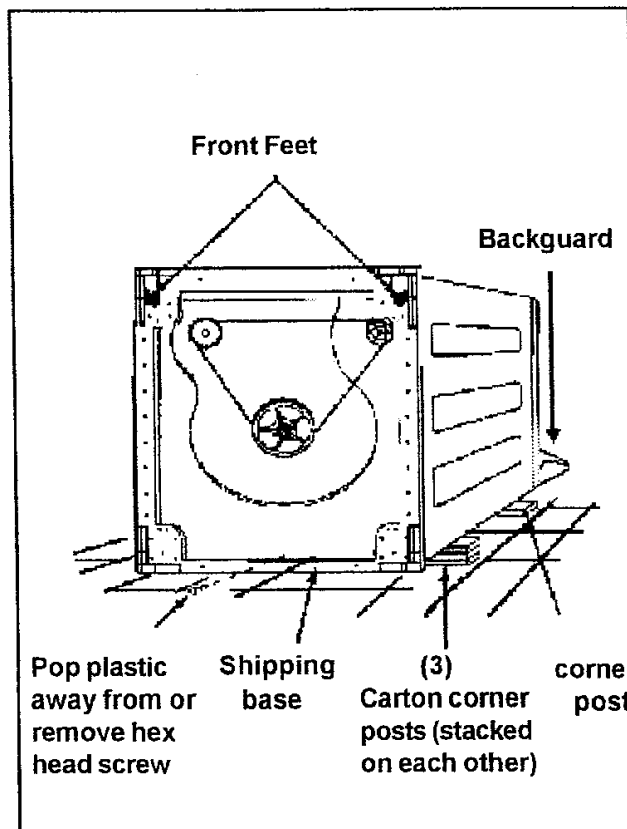

Figure 1-2
4. Remove the crate bottom from the washer. Pop the plastic loose from the screw located between the back feet, or remove the screw entirely with a screwdriver. **(Figure 1-2)** Pull the plastic base away from the back feet. Grasping the plastic base on the sides, pulling downward to release the front feet from the slots and toward you to remove the base. Discard the base (it can be recycled). **RETURN THE WASHER TO THE UPRIGHT POSITION.**